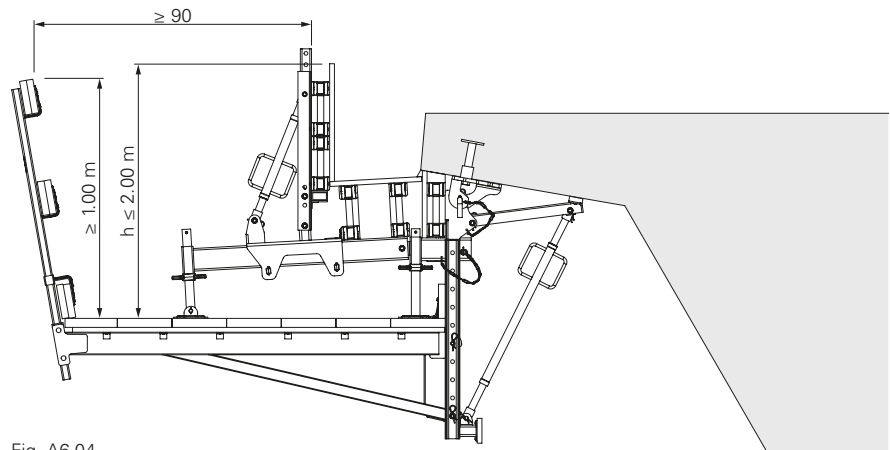

Fig. A6.04
- Installation of planking depending on the fall height h and span in accordance with DIN 4420-1, Table 2. (Fig. A6.04)